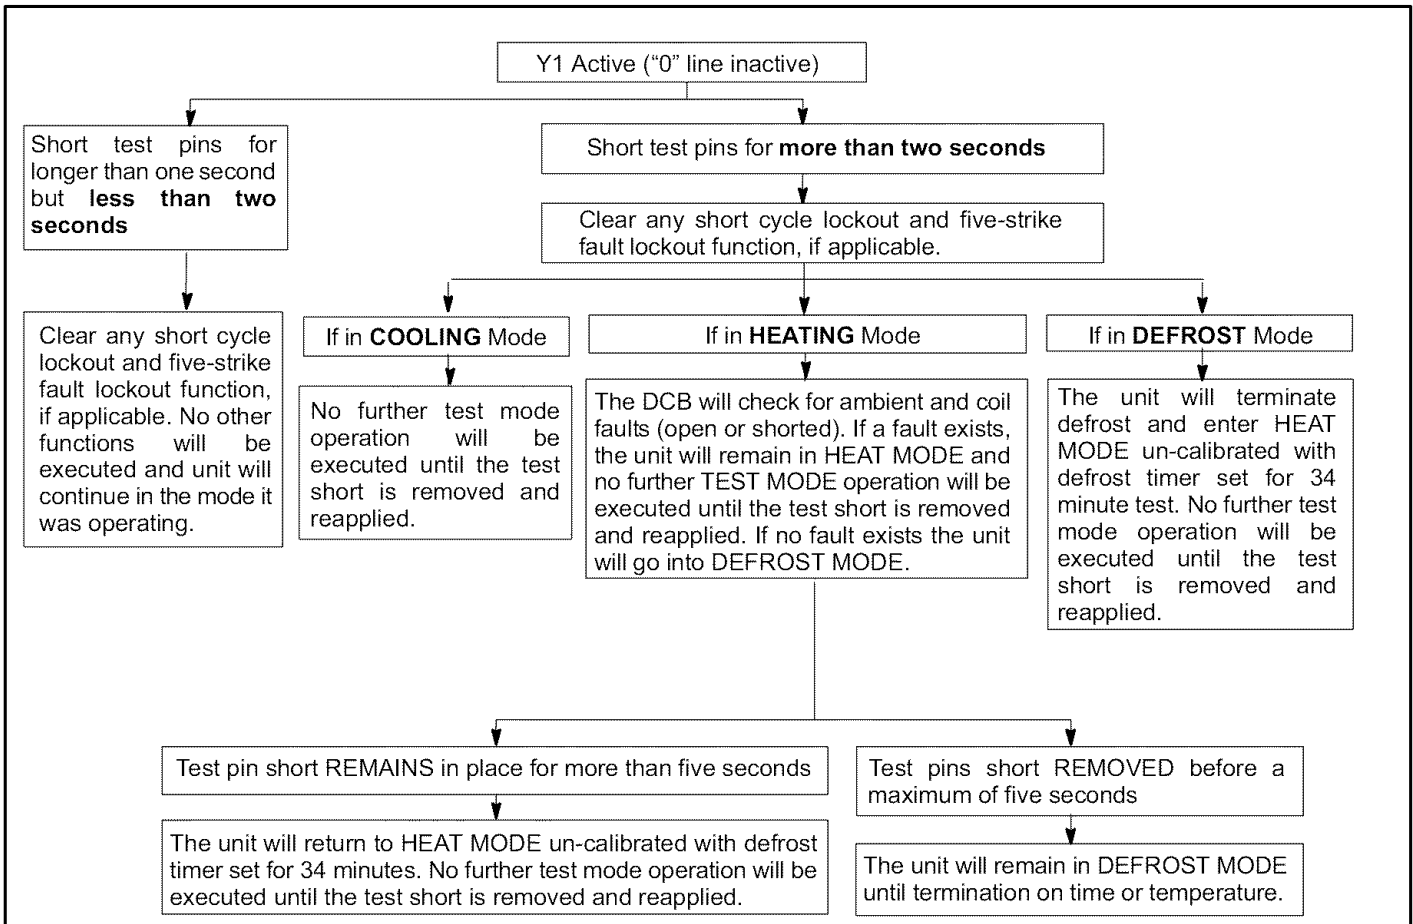

Figure 33. Test Mode
6. Each test pin shorting will result in one test event. For each TEST the jumper must be removed for at least one second and reapplied. Refer to flow chart illustrated in figure 33 on page 24 for TEST operation.